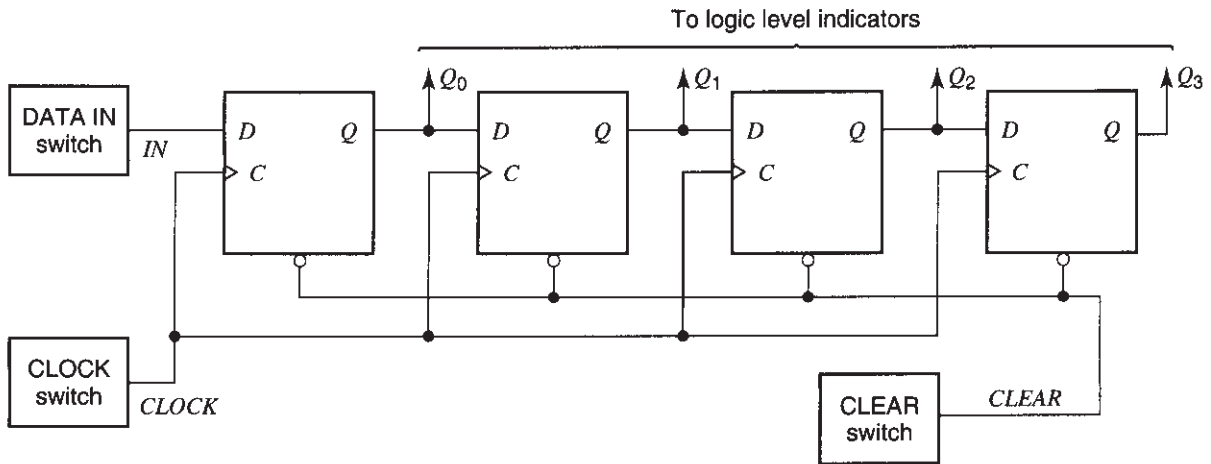

Fig. 7
10. Consider the four-stage shift register in Fig. 7, but do not build it yet. Assume that all outputs are cleared and then a 1 is placed at the input  $IN$ . Assume that the clock button is pressed and released *once*. What will the values of  $Q_0$ ,  $Q_1$ ,  $Q_2$ , and  $Q_3$  become? [Hint: When the clock goes from low to high, each flip-flop transfers to its  $Q$  the value that existed at its  $D$  just before the clock transition; see Fig. 2(b).]
11. Now build the circuit of Fig. 7. All four D flip-flops needed can be found inside the same 74LS175 chip, the pin assignment for which was given in Fig. 4. It will help if, before starting to build the circuit, you mark Fig. 7 with the appropriate pin numbers from Fig. 4. Be sure to connect the ground and supply pins. If no logic level indicators are provided on your breadboard, use four indicators of the type shown in Fig. 5.
19. Lower the frequency of the signal to 1 Hz. *Disconnect the clock switch circuit from the input of the shift register of Fig. 7, and connect instead your function generator output to it, as shown in Fig. 8.* The LED at the function generator output should be lighting up 1 time per second.